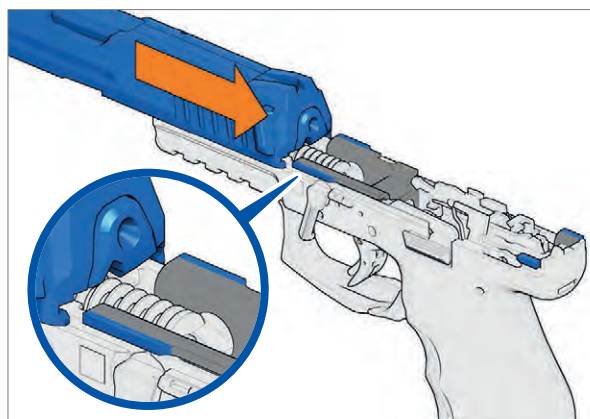

Fig. 56: Push slide over guide-rails
5. Place slide onto frame from above and push over the guide-rails of the frame (*Fig. 56*).